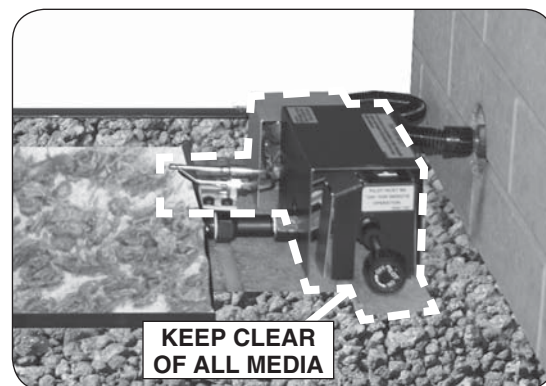

Fig. 21-4 Keep pilot, valve, & shield(s) clear
KEEP LAVA GRANULES/COALS, SAND/VERMICULITE, EMBERS, AND ALL FOREIGN OBJECTS AWAY FROM THE PILOT ASSEMBLY, VALVE ASSEMBLY, AND HEAT SHIELD(S) DURING MEDIA PLACEMENT AND AT ALL TIMES. SEE FIG. 21-4.